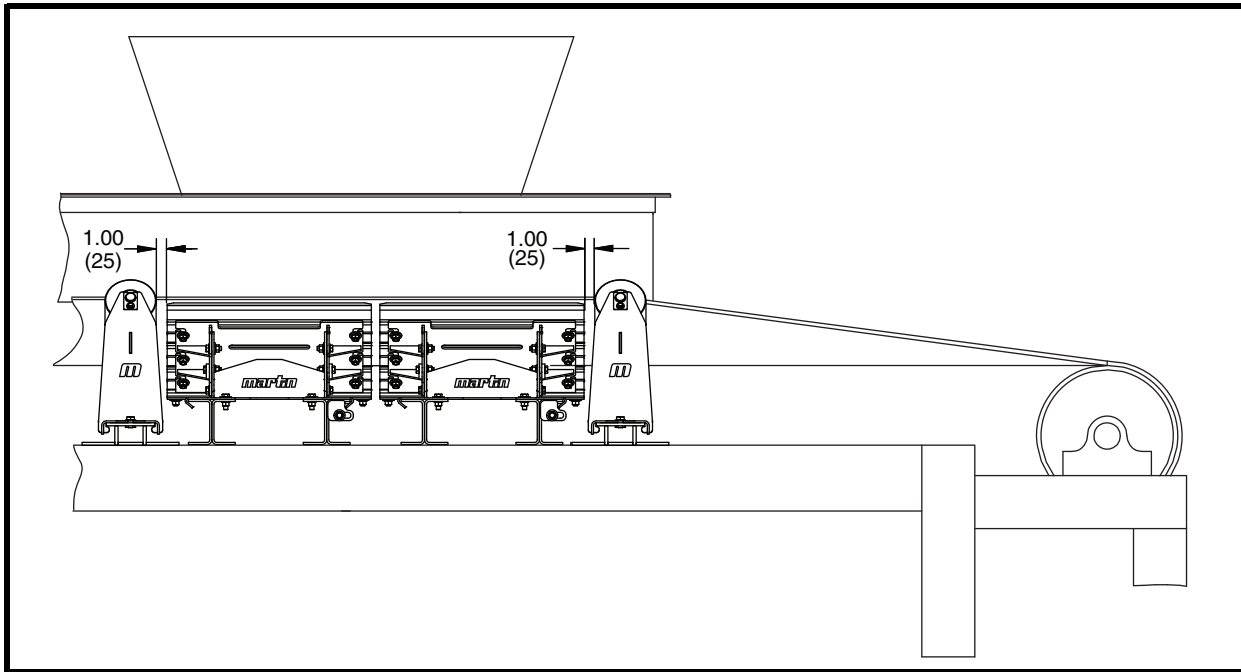

**Figure 2. Installing Idlers in Impact Zone**
2. From point marked on stringer, install idlers as explained in *Installing Trac-Mount™ Idlers*, making sure track weldments are as close together as possible (see Figure 2).